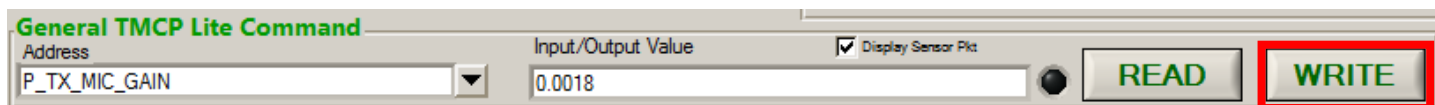

Figure 54 Setting P_TX_MIC_GAIN to P_TX_CURRENT_MIC_GAIN
- 6) Record value found in the previous step for **P_TX_MIC_GAIN** by setting **P_TX_MIC_GAIN** to the same value as **P_TX_CURRENT_MICGAIN** in step 3 (Figure 54)